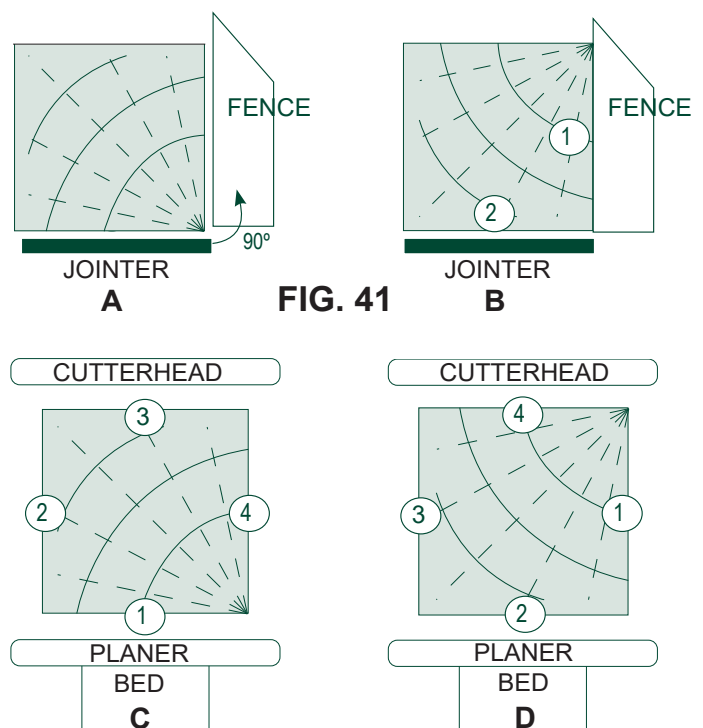

FIG. 41
1. FIG. 41, A - On the jointer, surface side 1 flat.